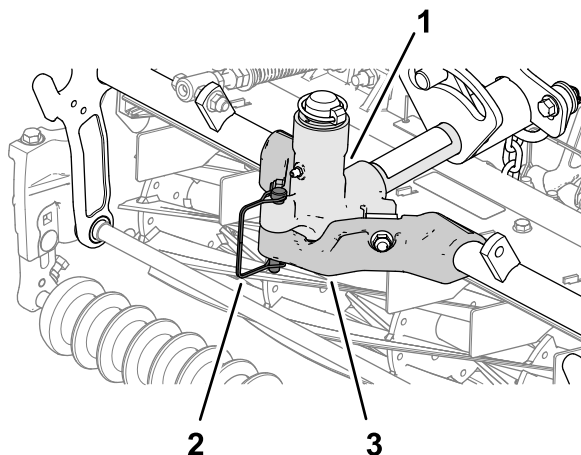

Figure 54
- Secure the carrier frame of the cutting unit to the pivot yoke with the snapper pin as shown in Figure 54.